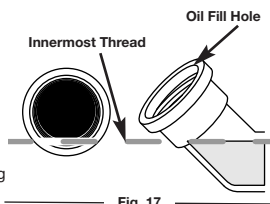

Fig. 17
- Look into the oil fill hole (use a flashlight if needed). The oil should be just touching the innermost thread (Fig. 17).
- If the oil level is not touching the innermost thread on the oil fill hole, add a small amount of oil to the oil fill hole and recheck (Fig. 17). Repeat this procedure until the oil level reaches the innermost thread on the oil fill hole.
NOTE: Use the bottle and spout saved from initial use to measure the correct amount of oil. The fill line on the label on the bottle measures approximately 2.03 ounces (60 ml) (Fig. 20). Check the level, See Checking the Oil Level. If the level is low, add a small amount of oil and recheck. Do not overfill (Fig. 17).